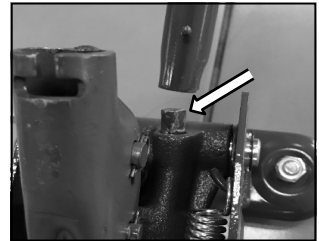

fig 3.
3. Slide the handle assembly into the handle base (3). The handle assembly will be required to be slowly twisted for the hex shaped drive of the release valve to engaged into the handle assembly slot [fig.3].